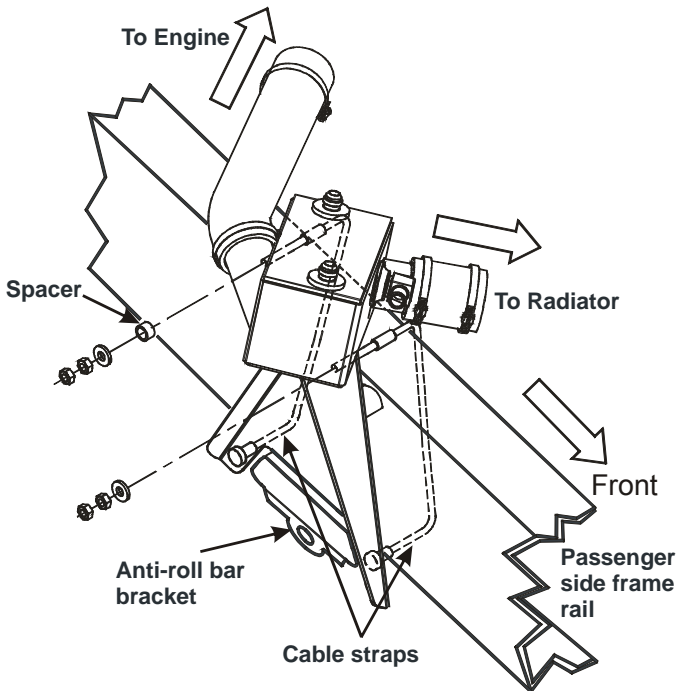

Figure 3.1
- ☐ Loop the retaining cables from the bottom holes around the frame and back through the top holes (Figure 3.1).